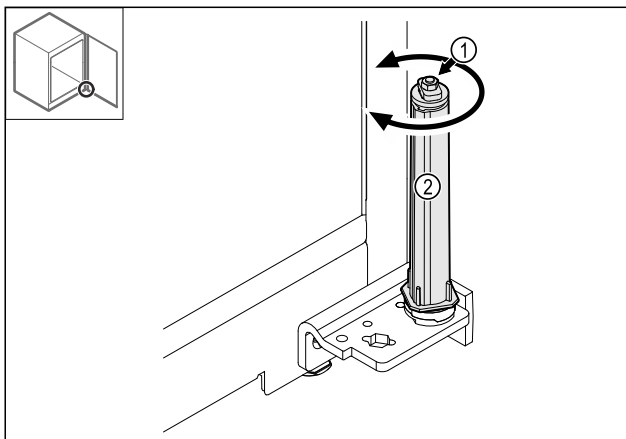

Fig. 31
- ▶ Do not dismantle the screw connection Fig. 31 (1) on the locking system.
- ▶ Turn the locking system Fig. 31 (2) until it clicks.